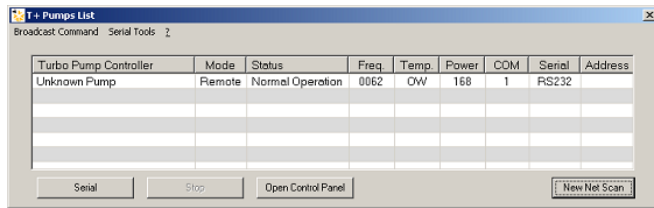

Figure 5 T+ Pumps List
4. Start the T-Plus software and Figure 5 appears.